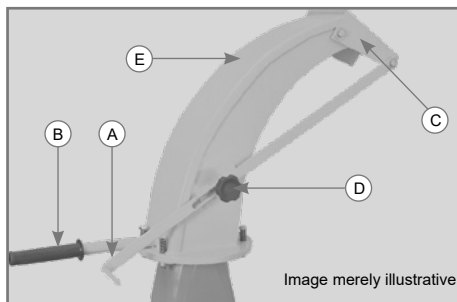

Figure 10
The outlet spout can adjust the direction of the outlet device (C) and the rotation of 360°, in order to make the adjustment, follow these directions according to Figure 10: